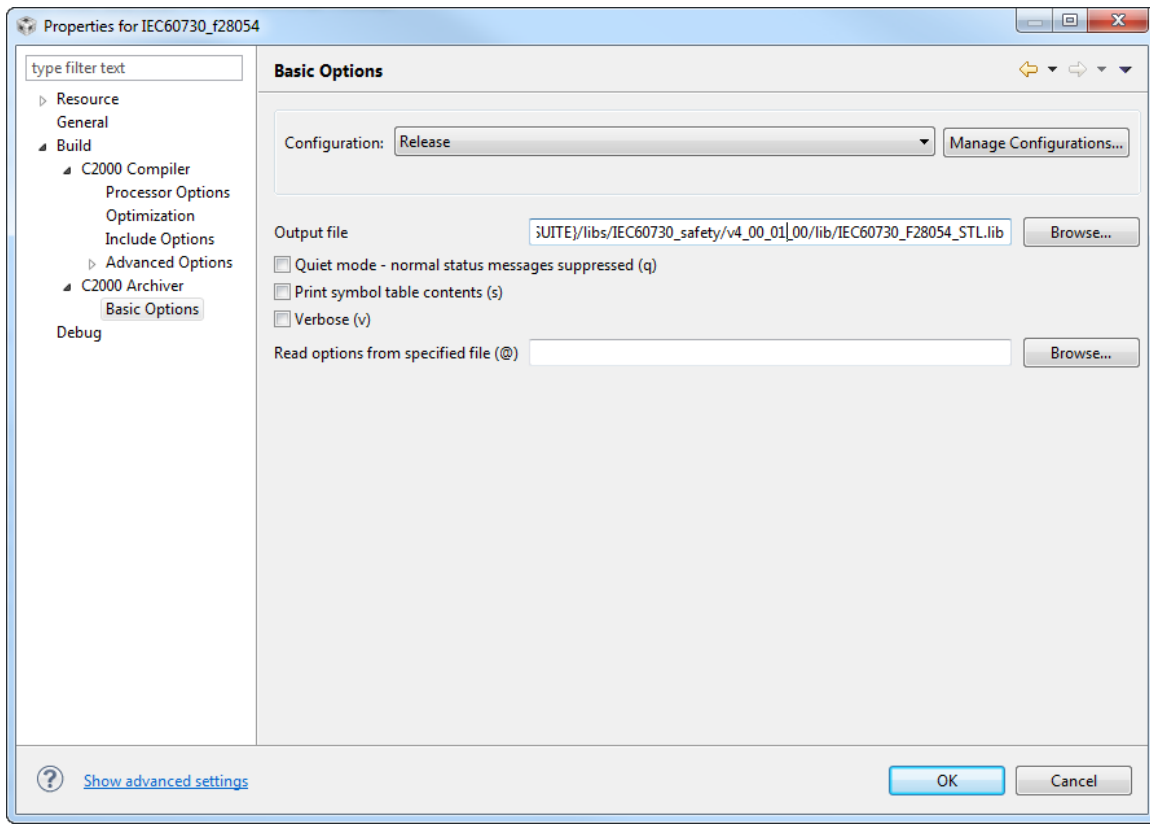

Figure G.3: Setting Library Output name and Directory
8. Click on **Projects** menu > click on **Properties** > expand to **Build** > **C2000 Archiver** > **Basic Options**. In the **Basic Options** in **Output file** text box type in the name of the library and the directory to place the library. For instance if building for f28054, enter `"${INSTALLROOT_CONTROLSUITE}/libs/IEC60730_safety/v4_00_01_00/lib/IEC60730_F28054_STL.lib"` > click **OK**. This will set the name of the library and the directory it will be placed after it is built. See figure G.3.